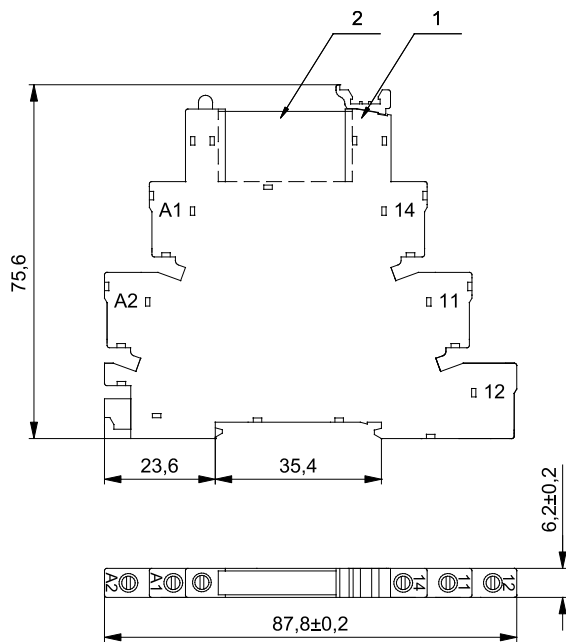

Fig. 1. Overall view of the PSOI-\*/1..6 relay
The intrinsically safe circuit relay separator type PSOI-\*/\* (Fig. 1, 2 and 3) consists of a socket (pos. 1), a relay (pos. 2) and an insulating spacer (pos. 3). The wires are connected to the spring/screw